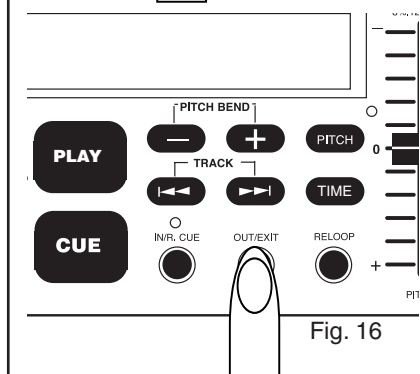

Fig. 16
- (1) To Exit a SEAMLESS LOOP, Press the **OUT/LOOP BUTTON**. The **IN/LOOP** and **OUT/LOOP** LEDs will remain on, but will stop flashing. Music will resume normal play (Fig. 16)
- (1) Press the **OUT/LOOP BUTTON** to return to normal play from the loops cue point. (Fig. 16). This disengages the SEAMLESS LOOP mode and allows you to edit the loops ending point.
- (2) Press **OUT/LOOP BUTTON** again for a new loop ending point (Fig. 16).
- (3) **FOR A SHORTER LOOP:** Press the **OUT/LOOP BUTTON** at sooner point in the track.
- (4) **FOR LONGER LOOP:** Press the **OUT/LOOP BUTTON** at later point in the track.